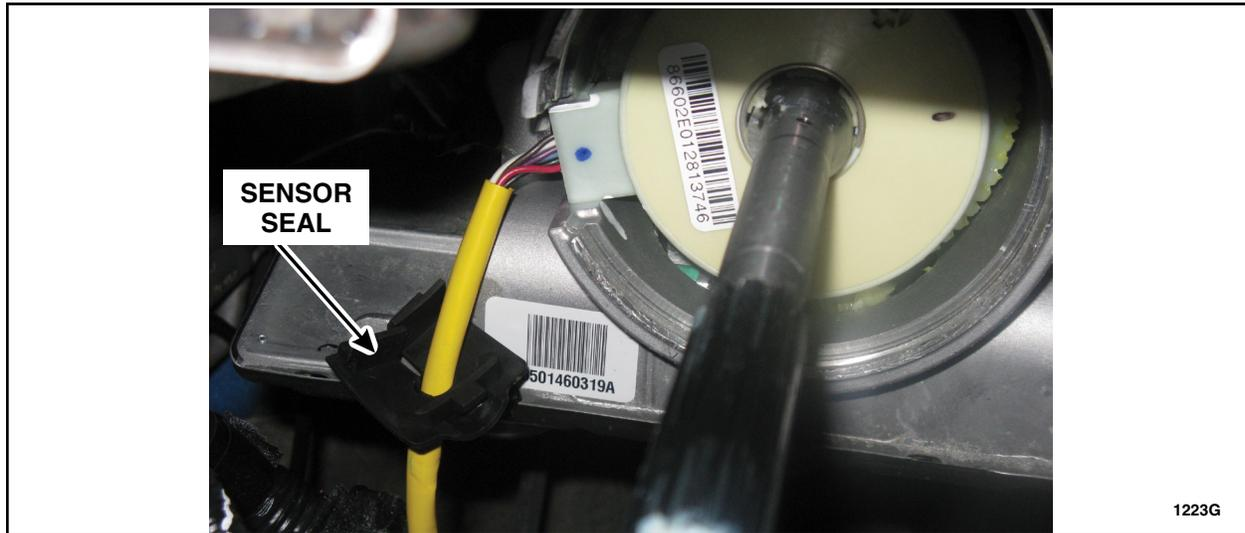

FIGURE 11
15. Remove the sensor seal from the steering assist assembly. See Figure 11.
30. Reinstall the sensor seal onto the steering assist assembly. See Figure 11.